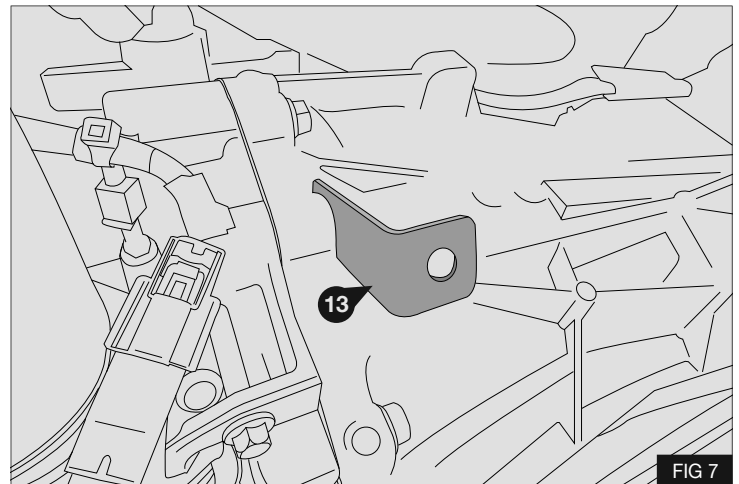

FIG 7
1. Install the support plate (13) at the point shown using the original fastener. - Fig 7